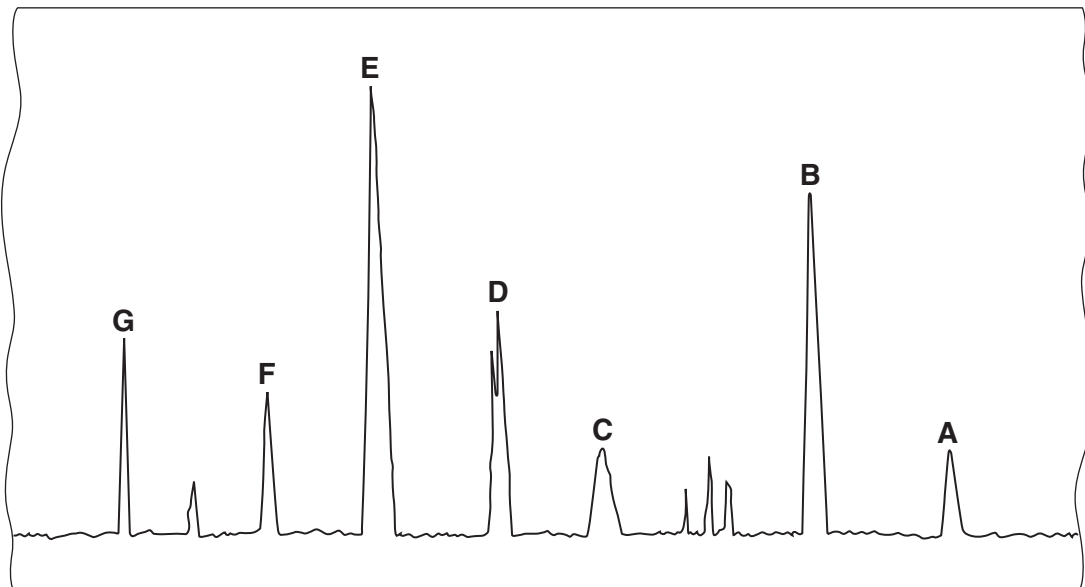

Fig. 1.1
- (e) Gas-liquid chromatography was used to identify some of the compounds present in an apple that cause its aroma. The chromatogram, Fig. 1.1, was obtained.
For similar compounds the retention time is often related to the relative molecular mass (M_r). The larger the relative molecular mass, the longer the retention time. In Fig. 1.1 compound **A** has the shortest retention time and compound **G** the longest retention time. Table 1.1 gives information about some of the compounds present.
- (ii) State how many compounds are shown in the chromatogram, Fig 1.1.